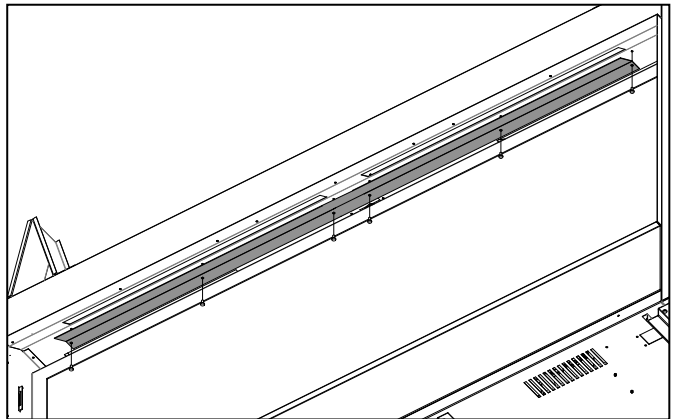

Figure 21: CSS Cover Removal
3. There is a CSS cover on the inner top of the cabinet that must be removed. It is attached using #8 T20 screw. Remove these screws and remove the cover (see Figure 21).